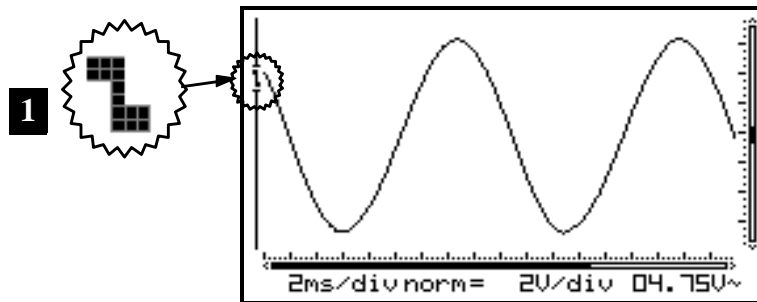

Fig 41
1. Triggering on the rising slope of the signal: The screen will only display the signal when a positive slope is "detected", viz. the signal has to rise in vertical direction in order to trigger. (**Fig 41**)